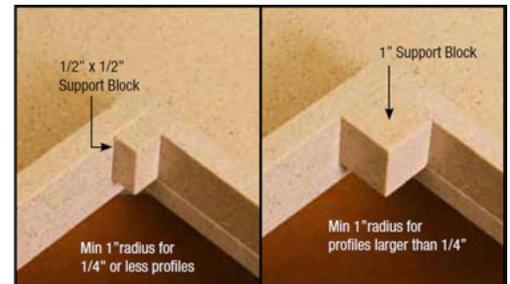

Figure 15B
2. Vertical strips method: Corner block. (FIG. 15B)